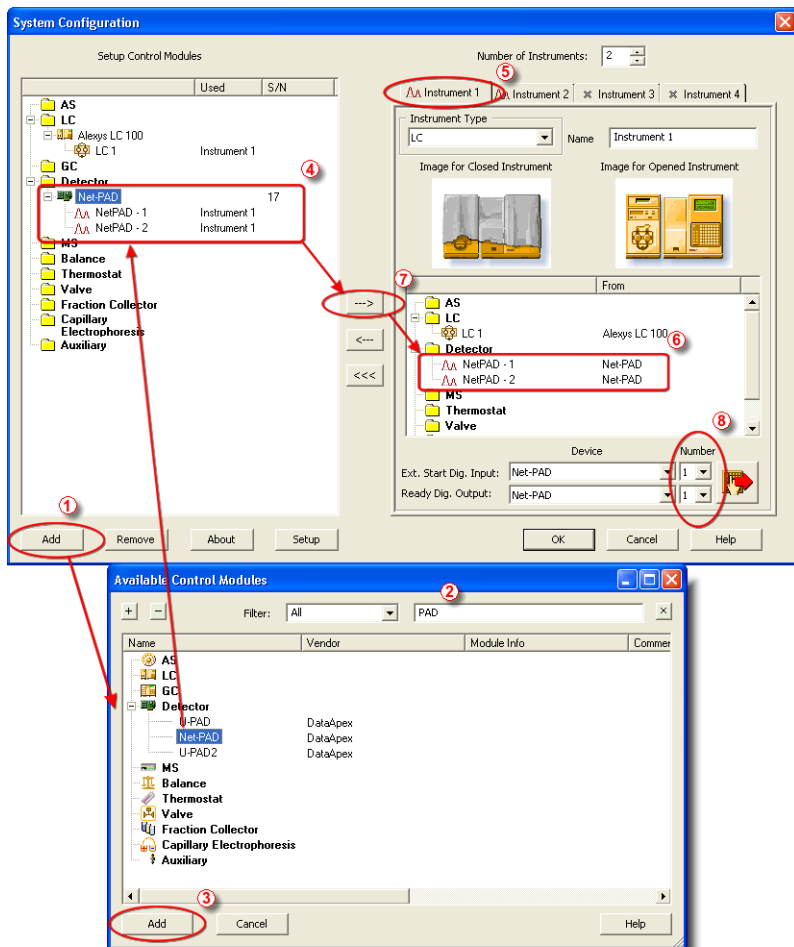

Fig. 8: System Configuration
- Press the **Add** button (1) (See Fig. 8 on pg. 12.) to invoke the **Available Control**